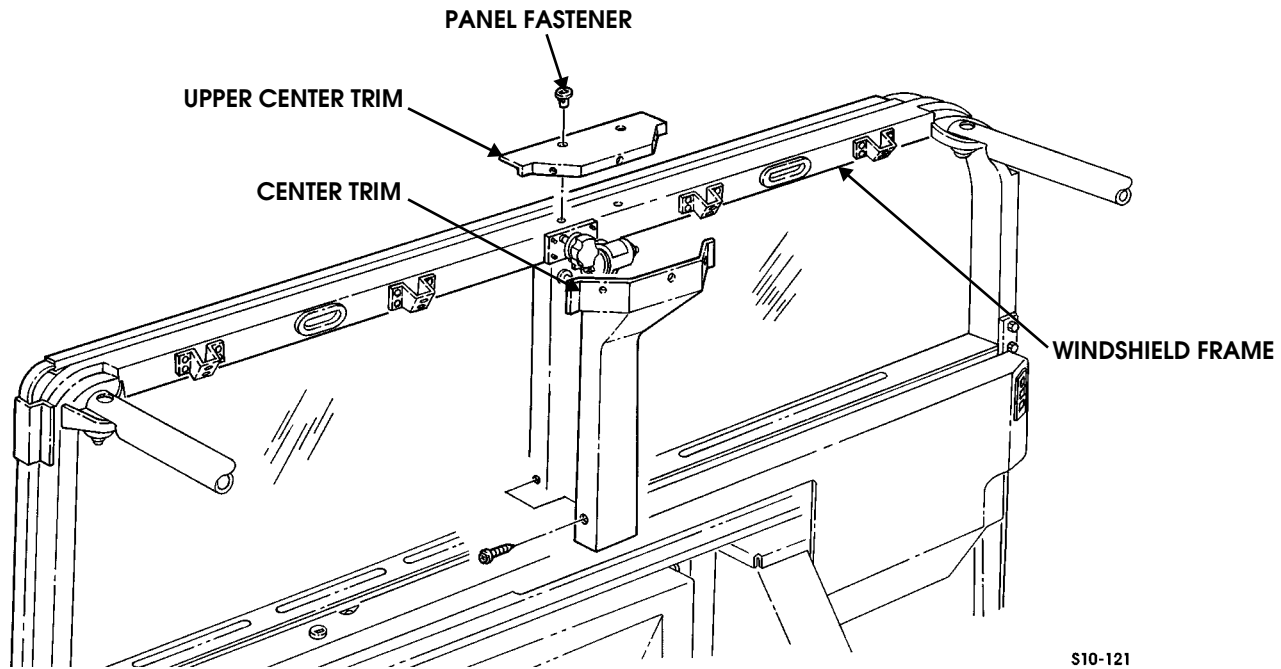

Figure 10-131: Upper Trim Replacement
4. Remove two panel fasteners from upper center trim of windshield frame (Figure 10-131).